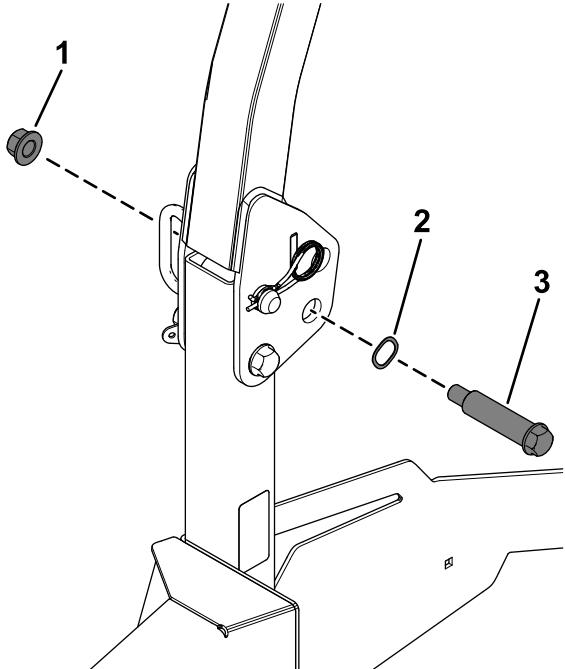

Figure 6
1. Secure the shoulder bolt to the roll bar using a wave washer and locknut (1/2 inch) as shown in Figure 6.